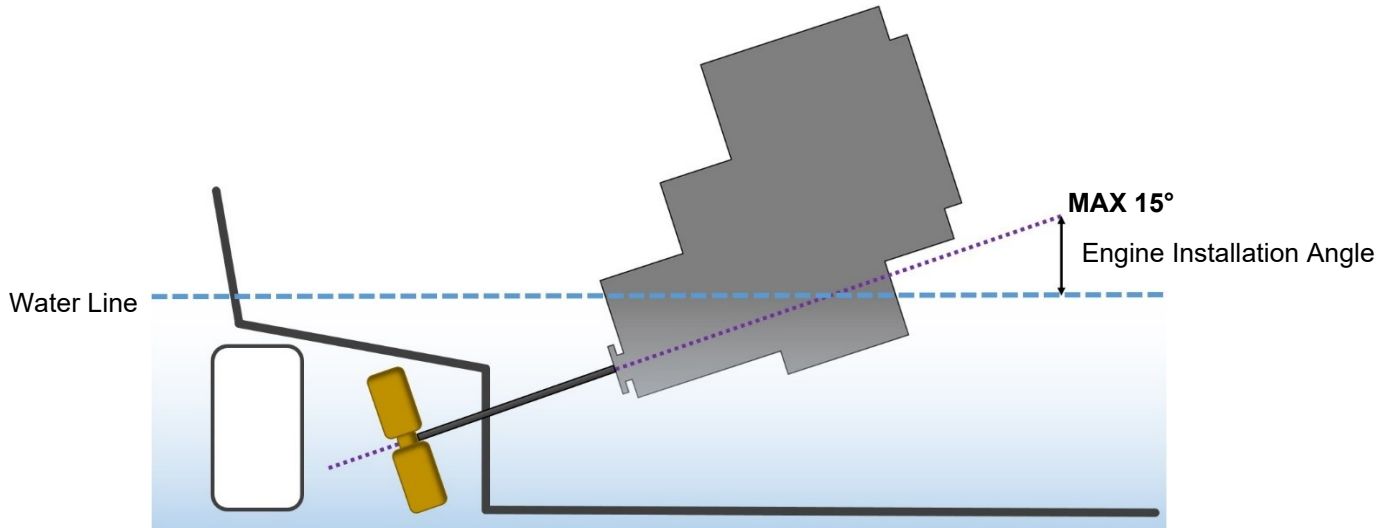

Figure 3-6: Maximum Engine Installation Angle
- For best results, fit the front anti vibration mounts into the front holes in the engine rails. If engine room space is a problem the mounts can be fitted slightly further back in alternative holes, and the front of the rail cut off – leaving 50mm of material to retain strength (measuring from the centre of the mount hole to the front end of the rail). **Note:** this procedure is only possible on non E Kit/VDO TravelPower engines, and may result in a very slight increase in vibration. The hole positions are show in **Figure 3-6**.